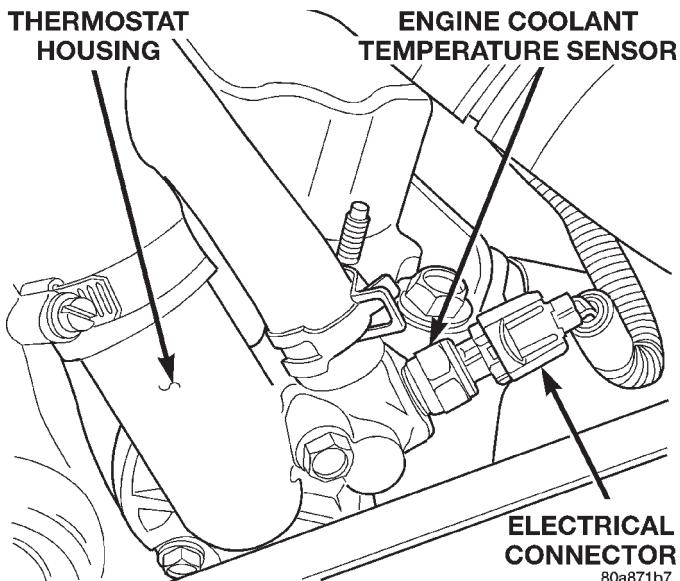

Fig. 32 Engine Coolant Temperature Sensor—Typical
- 1) Disconnect wire harness connector from coolant temperature sensor (Fig. 32).